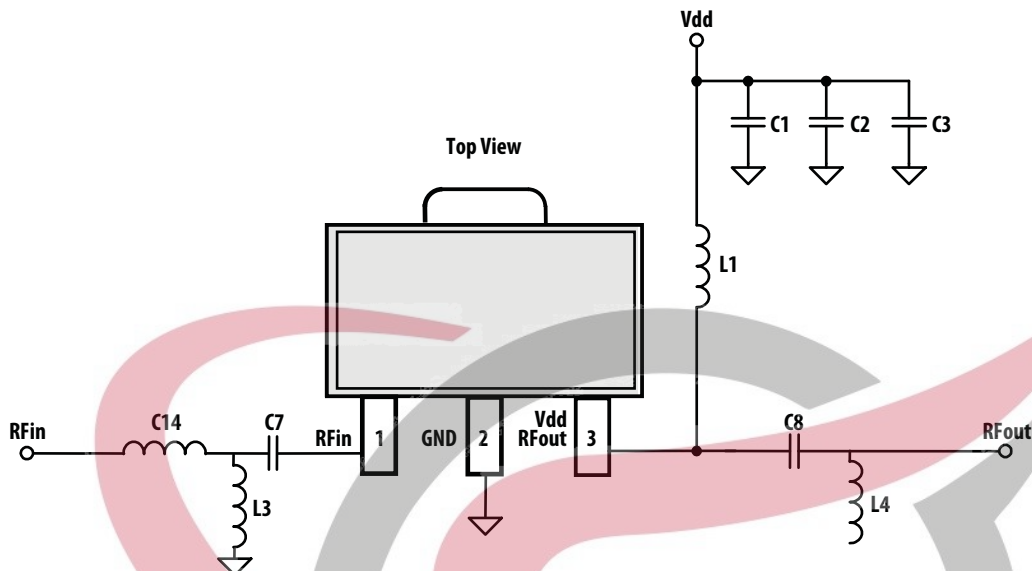

Figure 30. Application Schematic
1. Measurements obtained using demo board described in Figure 30 and 31. 3.5GHz data was taken with 3GHz - 4GHz Application Test Circuit and 5GHz data with 1.5GHz - 2.6GHz Application Test Circuit respectively.
$T_A = 25^\circ\text{C}$ ,  $V_{dd} = 5\text{V}$ , Input Signal=CW. Application Test Circuit is shown in Figure 30 and Table 2.
$T_A = 25^\circ\text{C}$ ,  $V_{dd} = 5\text{V}$ , Input Signal=CW. Application Test Circuit is shown in Figure 30 and Table 3.
TA = 25°C, Vdd = 5V, Input Signal=CW. Application Test Circuit is shown in Figure 30 and Table 3.